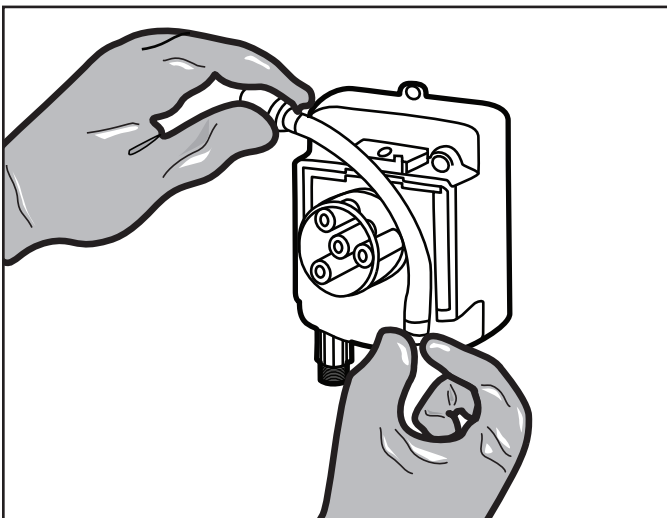

**Figure 19. Remove Roller Assembly**
4. Release the fittings from the slots to remove the tube. See Figure 19.